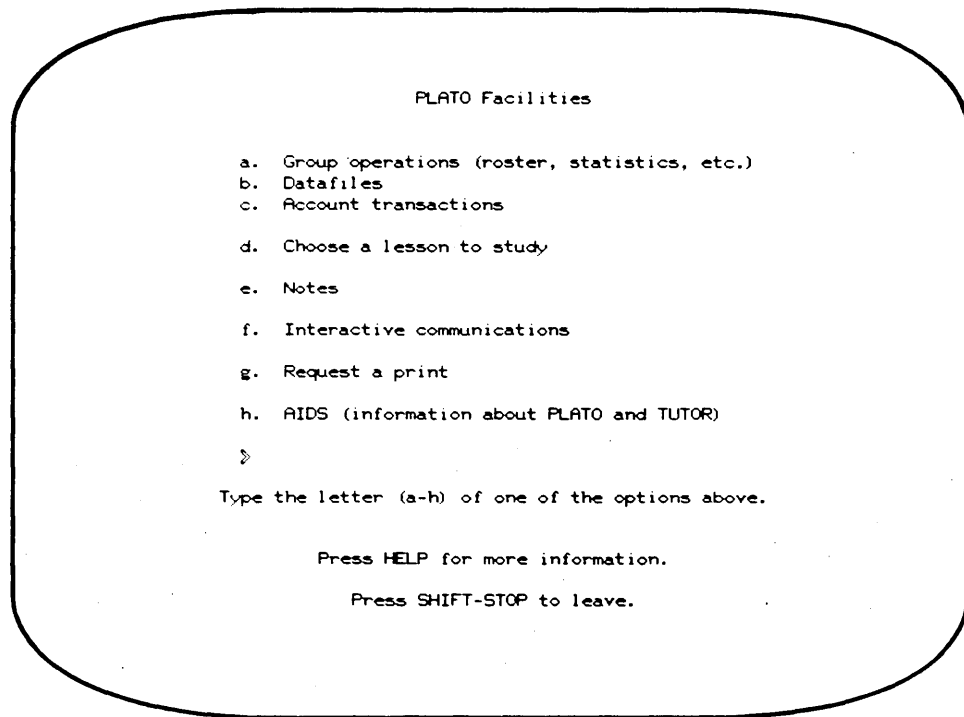

Figure 2-7. PLATO Facilities Display
- b. PLATO Facilities Display (figure 2-7) appears if you are an instructor.
The first display an instructor sees after signing onto the PLATO system is the PLATO Facilities Display (refer to figure 2-7). An instructor can choose any option on the PLATO Facilities Display.